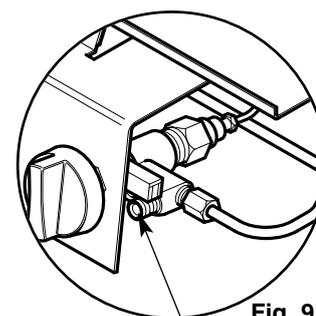

Fig. 9
2. Take a pressure reading and consult the technical data (below) to establish the correct working pressure. The burner pressure can be tested at the point shown in Fig.9.